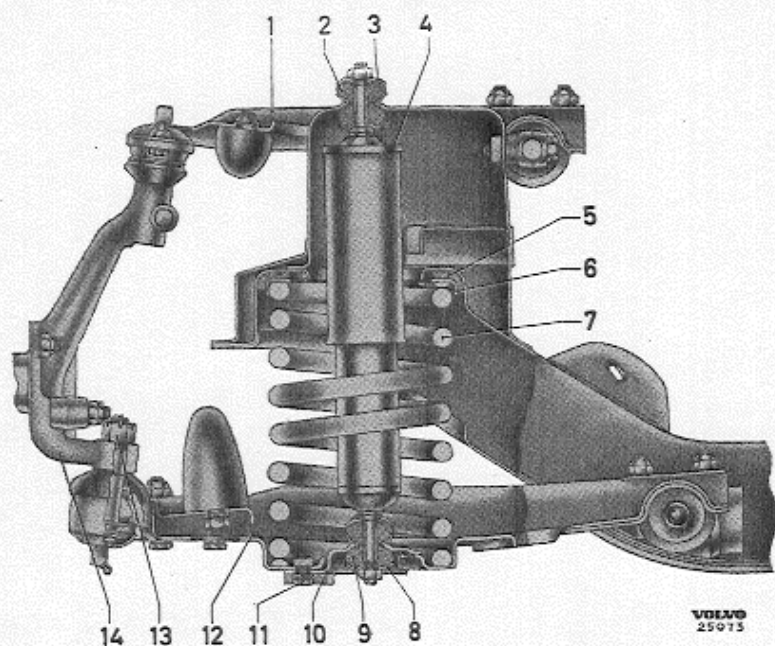

Fig. 4. Front spring and shock absorber.
Check the spring before fitting it. Compress the spring fully and then check its length under the loadings shown in the specifications. Replace sagging or damaged springs. Check the rubber spacer (5, Fig. 4).
Place the rubber spacer (5, Fig. 4) and the washer (6) in position in the spring housing in the member and fit the spring in the reverse order to removing.